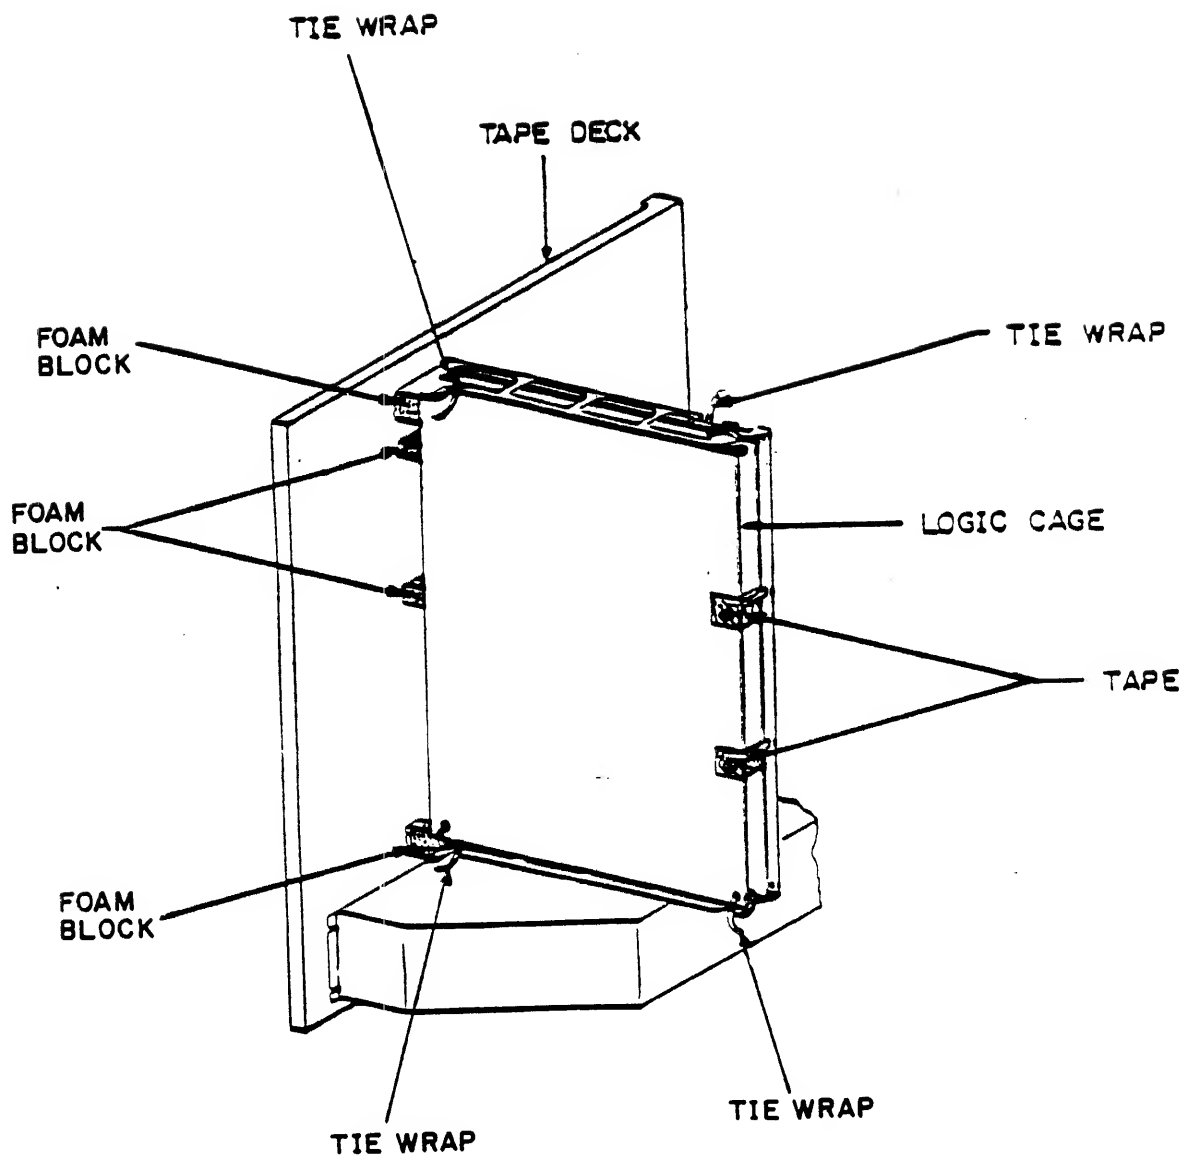

Figure 3-20. TAPE DECK SHIPPING MATERIAL
20. Remove the filament tape and the tie-wraps from the PWAs. See Figure 3-20.